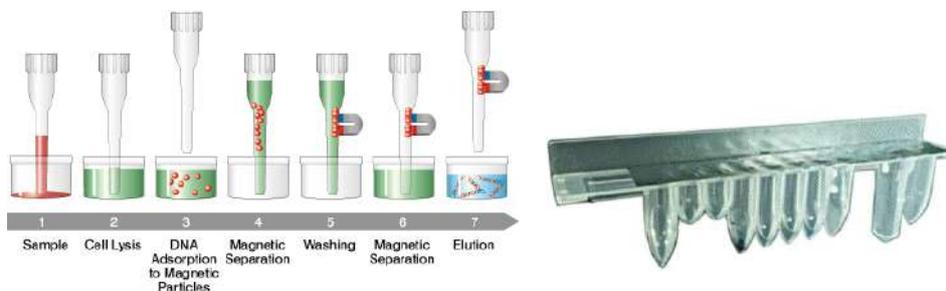

Figure 1.4: Nucleic acid extraction principle and ELITE InGenius SP 1000 extraction cassette
- The reagent set has been optimized for the isolation of nucleic acids from up to 1 mL of samples. (Figure 1.4: ELITE InGenius – SP1000 Extraction cassette and extraction principle).